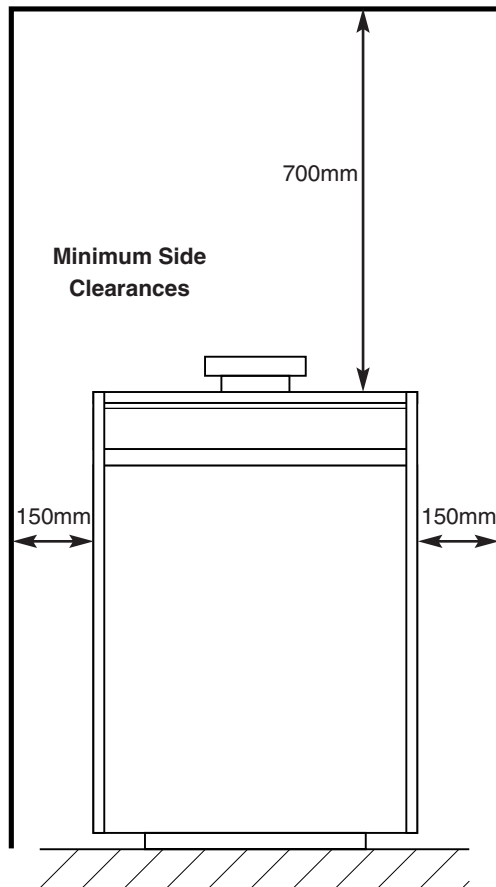

Fig. 3
3.1 Clearances around the Boiler (Figs. 3 & 4)